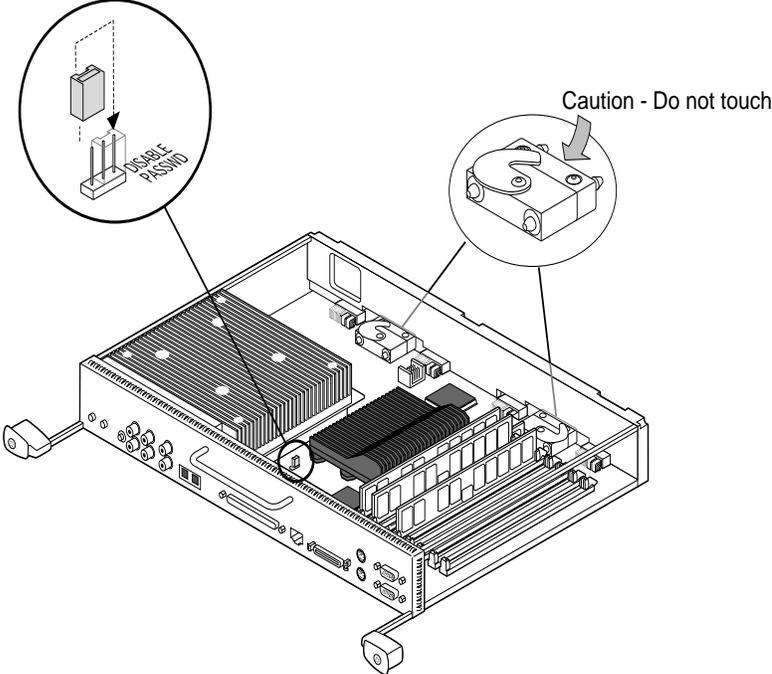

Figure 8-11 Removing the Jumper to Enable the Password
5. Locate the white rectangle printed on the system board at the base of the jumper, as shown in Figure 8-11.